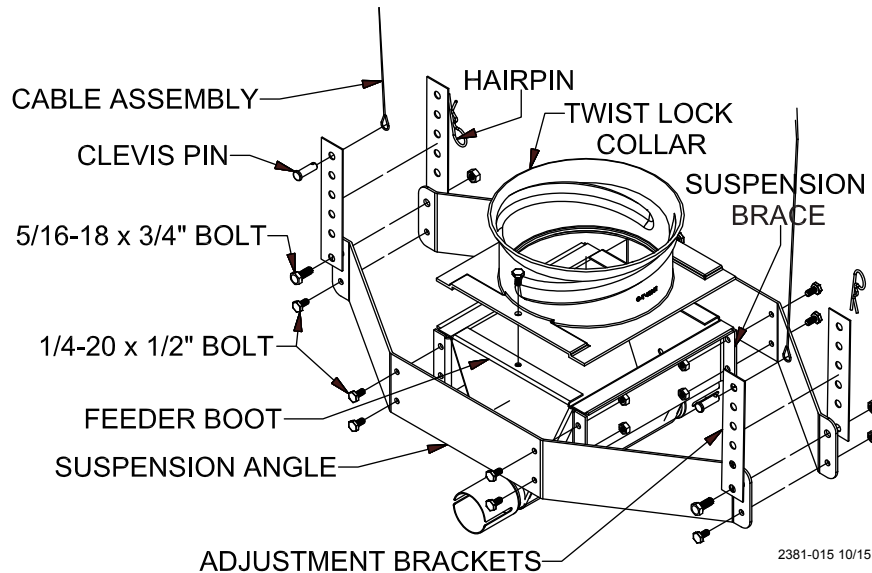

Figure 15.Hopper Assembly (Bottom)
- Assemble suspension angles and suspension braces around feeder line boot (single or twin), using 1/4-20 x 1/2" Hex bolts and nuts (supplied in hardware package), **see figure 15.**
- Assemble the twist lock collar to the top of the feeder line boot (single or twin) using 1/4-20 x 1/2" bolts and lock nuts (supplied in hardware package), **see figure 15.**
- Two cable assemblies (cable with a sleeve clamp and a 5/32 thimble) are supplied with the suspension kit to support the hopper. Attach the cable assemblies to the adjustment brackets using the top holes of the adjustment brackets, **see figure 15.**